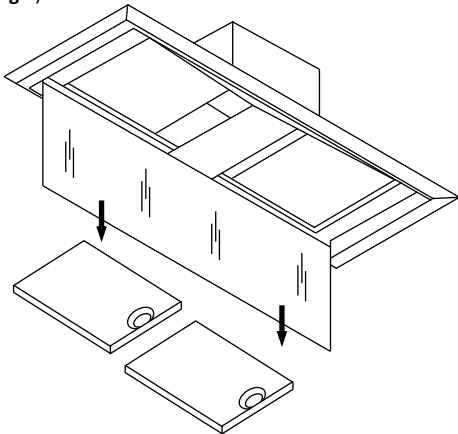

Fig 4
2. Remove the grease filters from inside the hood (Fig 4).